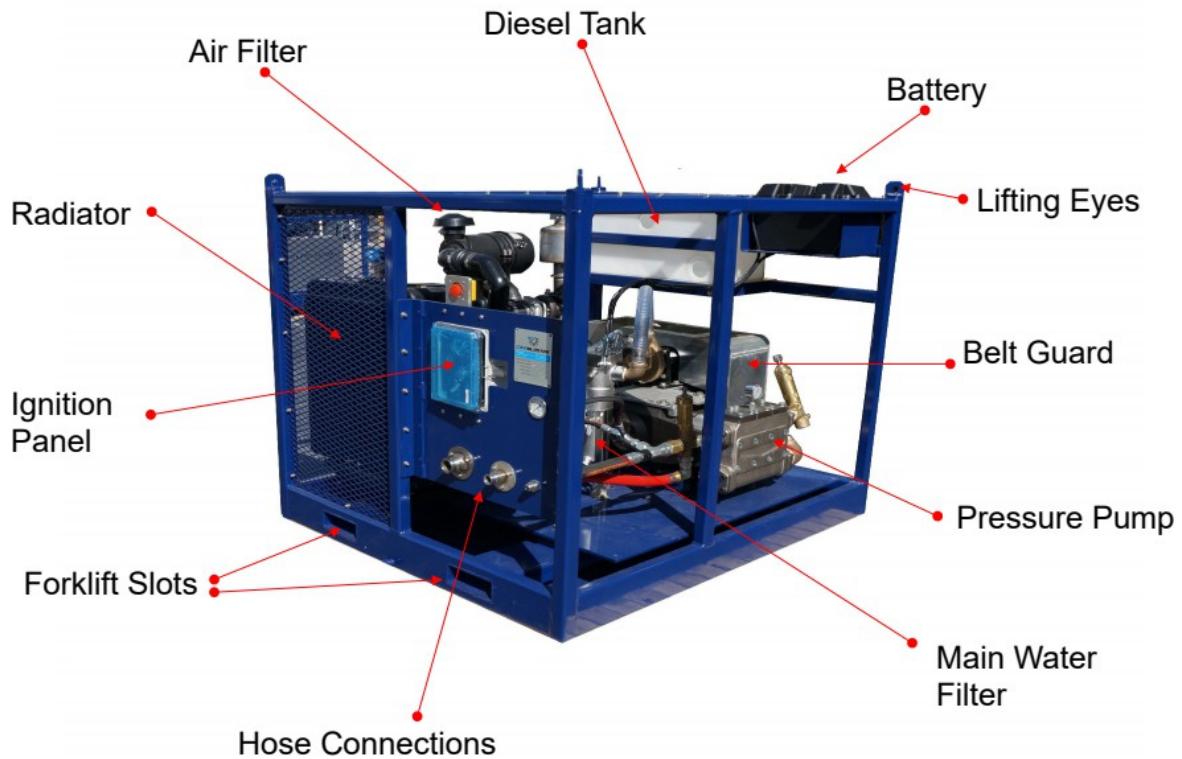

Figure 2.1 – CaviBlaster 3040-D General Features
5. Check fuel tank (See **Figure 2.1**) for proper diesel fuel level. Add diesel fuel (ASTM Grade No. 1- D or 2-D, or EN 590) if necessary.